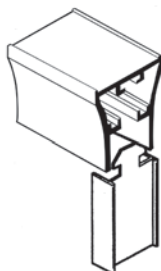

Figure 5A
- C. The Model 2500/4500 comes with a positive snap-lock feature which eliminates the need for screws to hold the Header (#1) in place. Position the Header (#1) over the top of the Wall Jamb (#3). Spread the Header (#1) sides slightly as you pull it down onto the Wall Jamb (#3) and it snaps and locks in place. You should be able to hear and feel when it solidly locks into place (See Figure 5A).